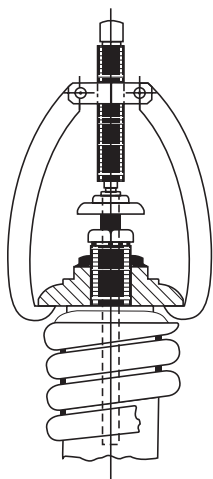

Figure 14
2. Center the test gag screw in the exposed end of the spindle and hook the legs of gag under the sides of the yoke as shown in Figure 14.